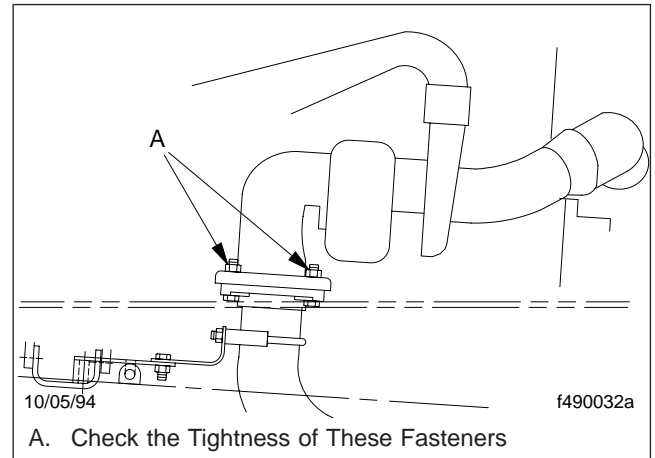

Fig. 1, Typical Exhaust-Pipe to Exhaust-Flange Fasteners
- 2.2 On Mercedes-Benz MBE900 engines, check the tightness of the fasteners that attach the exhaust pipe to the exhaust flange (see Fig. 1). If needed, tighten the fasteners 33 lbf-ft (45 N-m) for Mercedes-Benz MBE900 engines.